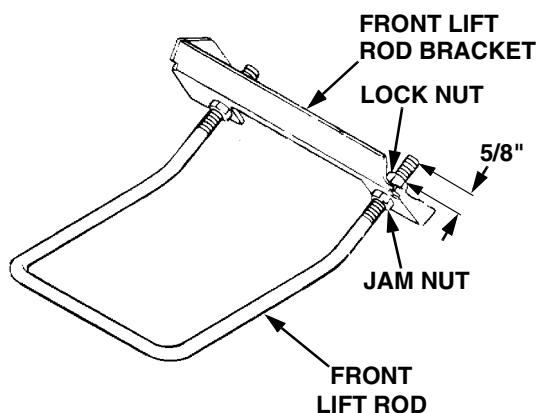

Figure 59
2. If making the initial installation of the deck, adjust the front lift rod to allow 5/8 inch of thread to protrude beyond both lock nuts of the front lift rod/bracket assembly (Refer to Figure 59).
6. To adjust the downward tilt of the blades, adjustment of the front lift rod is required. Refer to Figure 59 and proceed as follows: